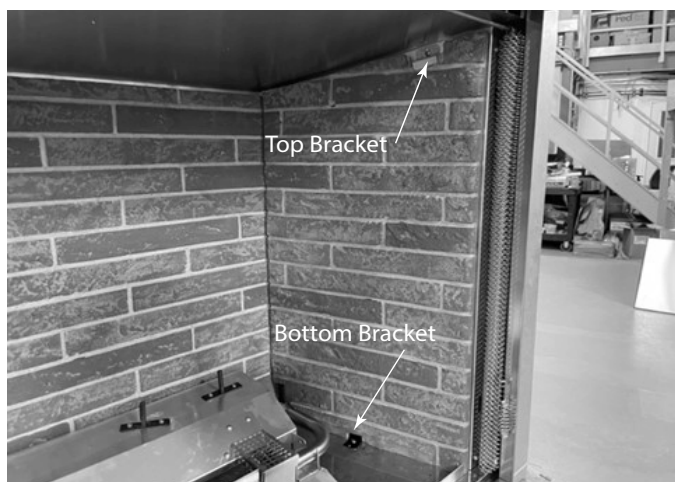

Figure 8.1
2. Remove refractory, if installed, by removing brackets at the top and bottom of each side panel. See Figure 8.1. Tilt refractory top edge towards the center of the appliance and lift out. Repeat on other side.